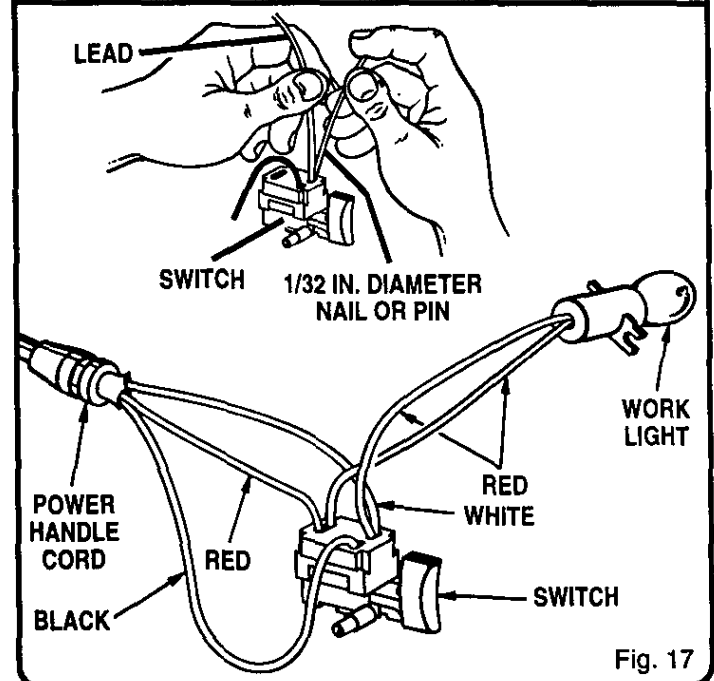

Fig. 17
- Remove leads from switch (D) by inserting a 1/32 in. diameter nail or pin into switch lead receptacle and pulling on lead as shown in figure 17. Remove nail or pin with a twisting, pulling motion.
- Make sure molded bend relief (C) is correctly positioned in switch handle, then replace handle cover and screws.